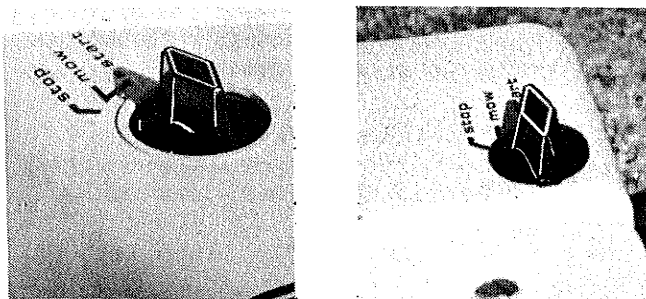

FIGURE 2
2. Speed Control Knob: Turn the speed control knob clockwise to the start position before attempting to start the engine. Engine speed is controlled by the position of the knob. Turn the control knob so the engine runs at three-fourths to full engine speed when mowing. On manual start models the engine is stopped by turning the knob counter-clockwise to the stop position. Electric start models can be stopped by turning the key to the OFF position. (See Figure 2).